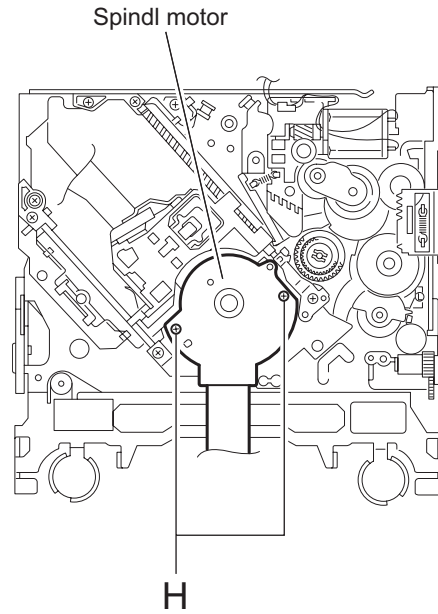

Fig.21
3.2.10 Removing the spindle motor (See Fig.21)